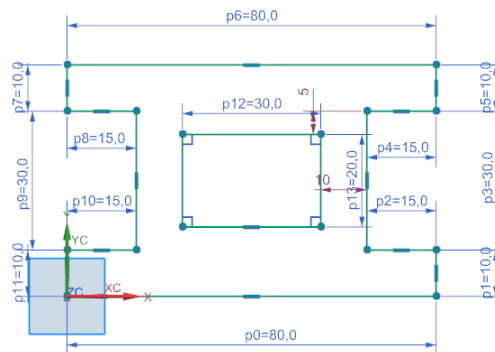

Figure 2-53 Final sketch for Tutorial 1
5. Press the ESC key to exit the tool. The final sketch for Tutorial 1 is shown in Figure 2-53.